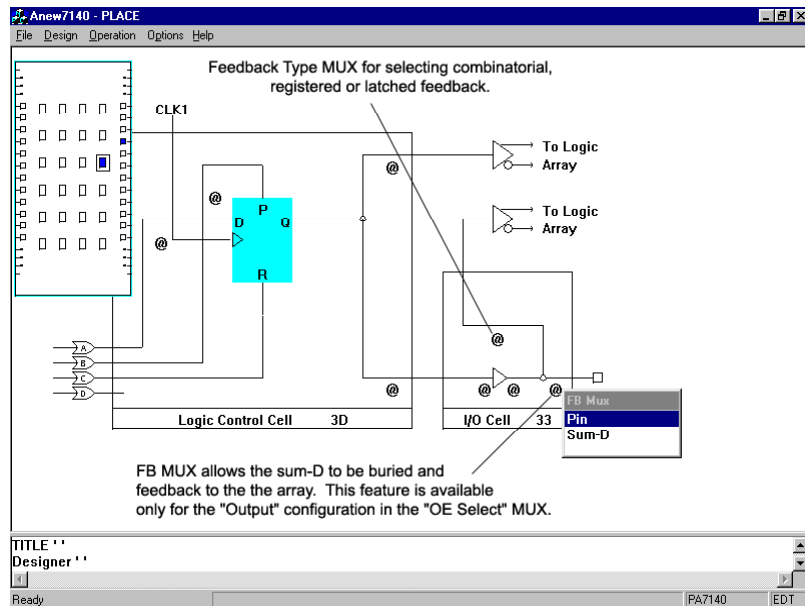

Figure 3-14 LCC and IOC screen of the PA7140
- Sum-D** Sets the feedback path to come from the Sum-D gate. With this configuration, the IOC automatically becomes an output pin with no feedback from the pin. Therefore, the Sum-D signal will be buried. See Figure 3-14.